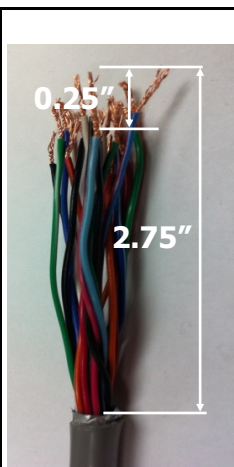

Figure 1.20
1. Strip the jacket and aluminum shielding off of the control cable as shown in **figure 1.20**, approximately 2.75" from end of control cable, being careful not to damage the individual wires.